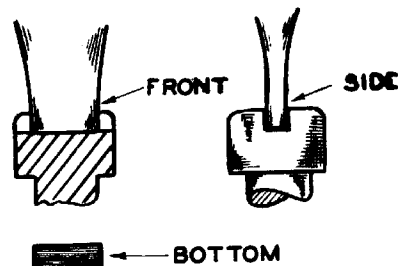

FIG. 1 GOOD SCREWDRIVER TIP
1. Inspect the tip of the screw driver blade. If it is not in good condition, it should be repaired by grinding the tip (Figure 1). Clean dirt and chips out of the screw slot.